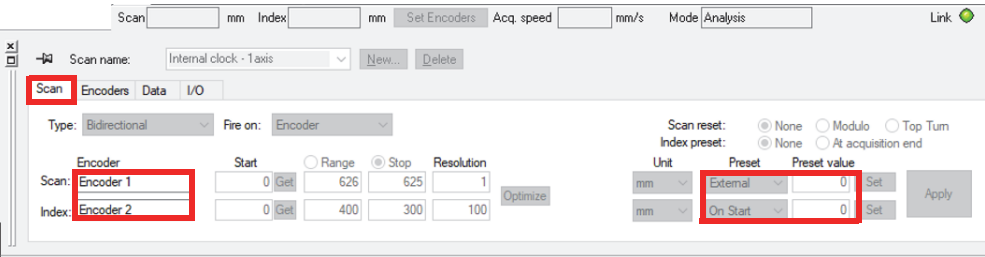

Figure 2-2 Parameters in FocusPC
- ◆ To scan, press the Play button and release the button between each scan line. The clicker function works the same way as the OmniScan, which means that the index value increments each time the button is pressed. Figure 2-2 on page 36 shows the parameters to input in FocusPC.